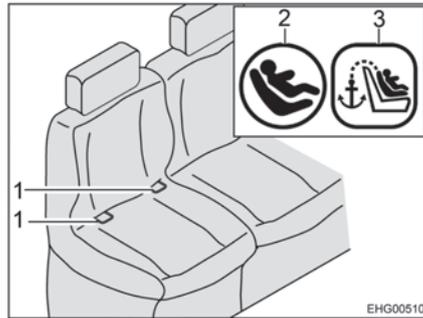
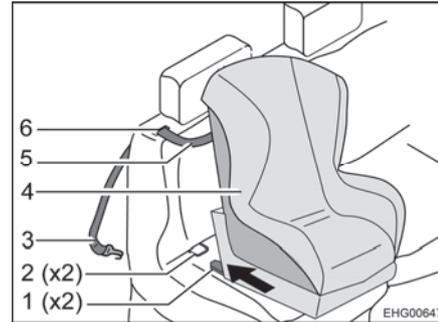

Fig. 14 Seat with ISOFIX
Fig. 15 Fastening with top tether
- Guide the top tether belt (Fig. 15,5) through the slot (Fig. 15,6) in the cushion of the backrest (next to the headrest).
- Hook the fixing hook (Fig. 15,3) onto the attachment point on the back of the vehicle seat.
- Have the connectors (Fig. 15,1) snap into the retaining clips (Fig. 14,1 and Fig. 15,2). While doing this, a distinctive click must be heard.
- With a strong jerk, check if the child seat (Fig. 15,4) is firmly connected.